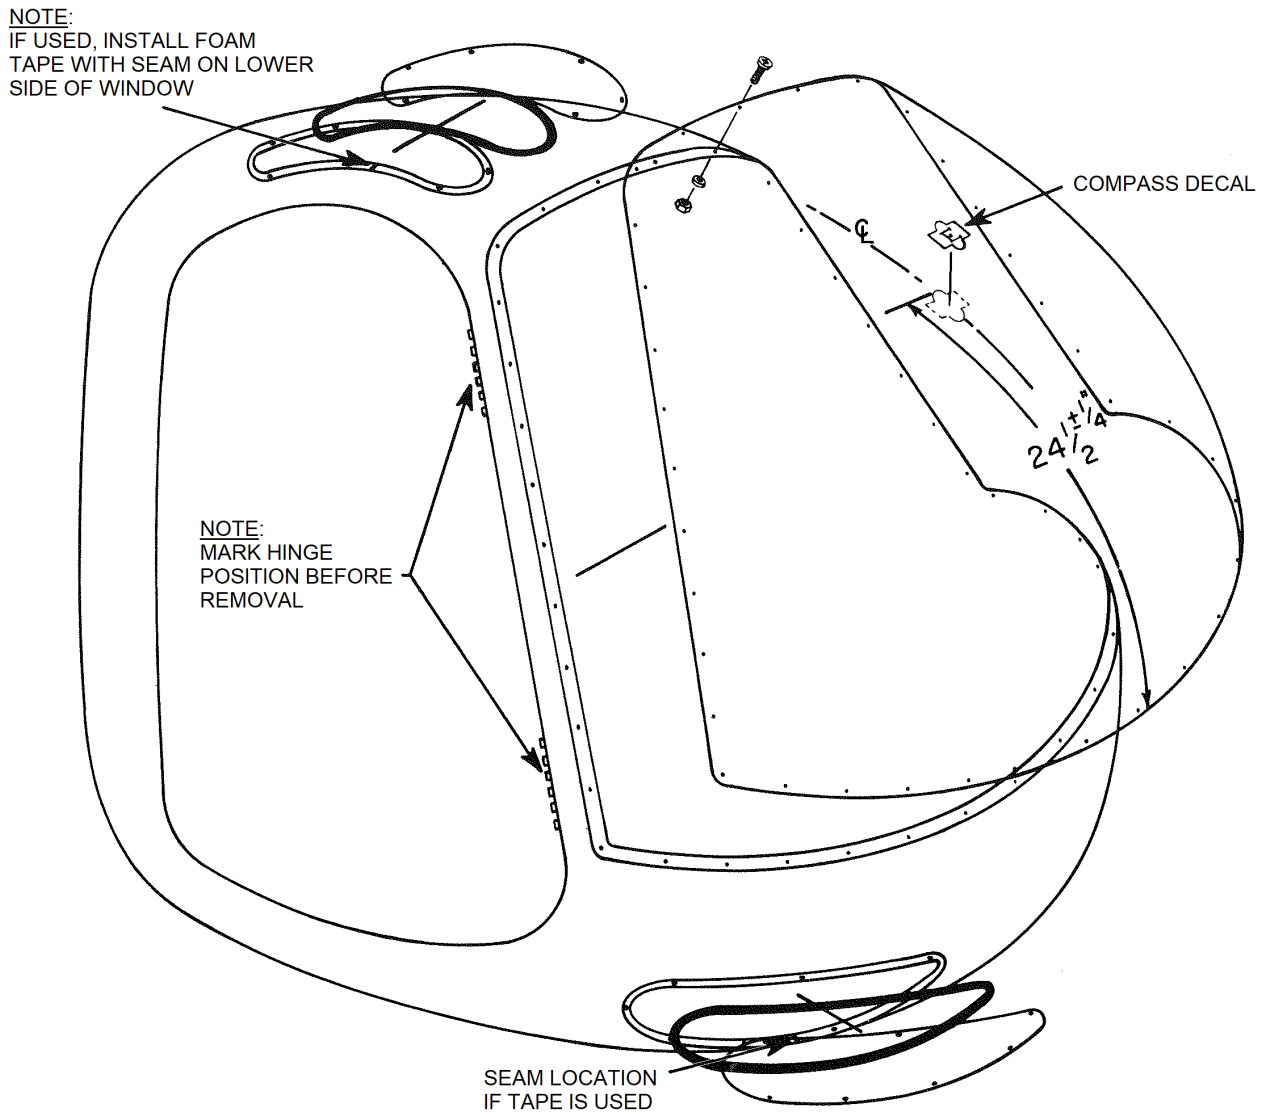

Figure 8-2. F-28F Windshield and Window Installation
- (1) Damage to the windshields and windows which does not interfere with pilot's line of sight during normal flight and landing attitudes or damage that does not impair structural integrity may be repaired by stop drilling or patching I/A/W AC 43.13-1B; however, the windshield or window should be replaced at the earliest opportunity.
C. Windshield Removal (F-28F) (See Figure 8-2)
- (1) Remove doors.
- (2) Remove door hinges to provide clearance for windshield installation.
- (7) Sand windshield mount area clean and free of old bonding adhesive with fine sandpaper.
D. Windshield Installation (F-28F) (See Figure 8-2)
- (1) Clean recessed windshield area of cabin frame with acetone or equivalent.
- (18) Remove mechanical fasteners.
- (19) Install door hinges in position as previously marked in removal procedure.
- (20) Install compass to windshield as follows: (see Figure 8-2)